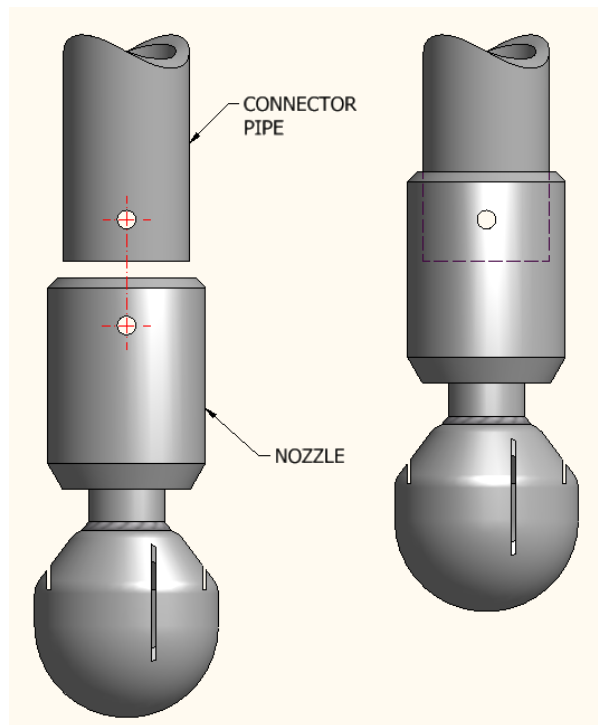

Figure 4 - Preparation for Installation
1. Align pin holes in connector pipe with pin holes on nozzle (Figure 4).